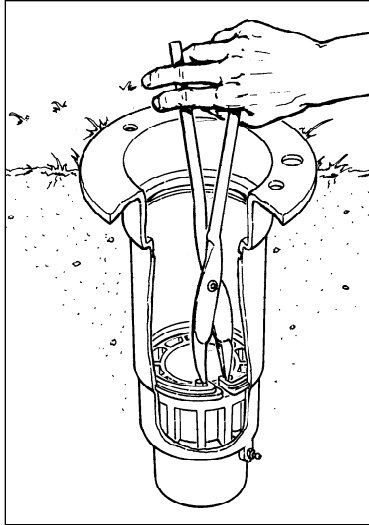

Figure 6
1. To remove valve assembly, squeeze ears of snap ring together with snap ring pliers and remove snap ring from sprinkler body. (See **Figure 6**).